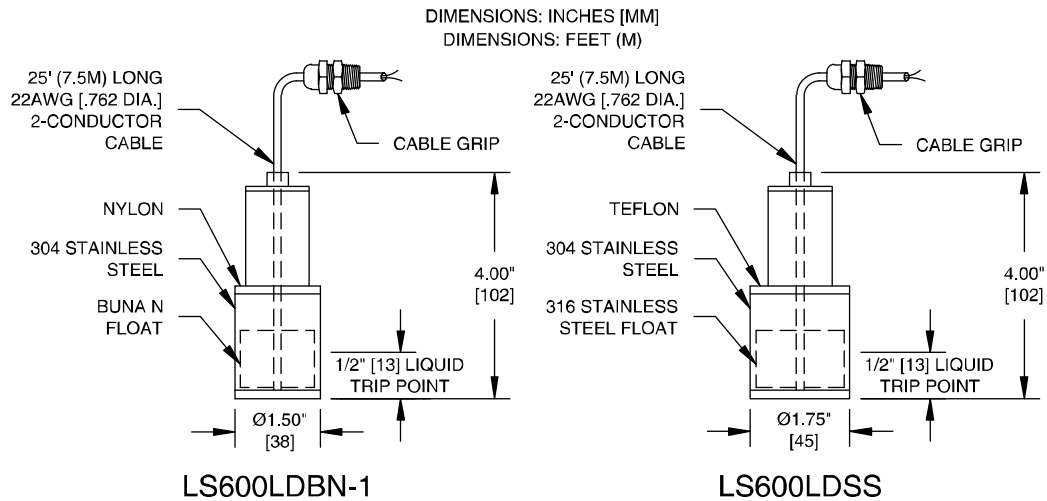

Figure 1-5 – LS600 LD Series
TMS1000N can be integrated with a variety of liquid sensors used for monitoring secondary containment areas around tanks and pipes. The maximum is 2 sensors depending on the overall job configuration; check the specific job design drawings for the actual number and type specified. Figures 1-5 through 1-8 show four (4) typical sensor types provided by Pneumercator with their most typical applications. Other non-Pneumercator models may be used; however, their use with TMS1000N should have been approved before attempting to wire them into the system.